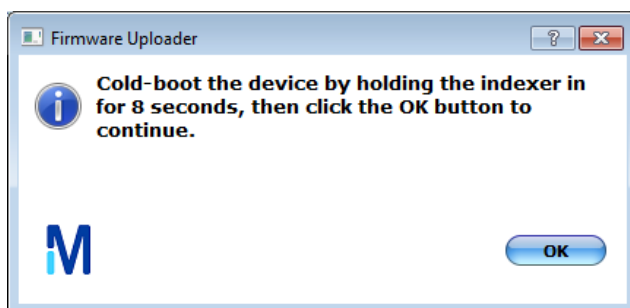

Figure 31. Cold-boot dialog box
5. Click on the **OK** button. A dialog box directs you to cold-boot the device by pressing the instrument control button (indexer) on the device for 8 seconds (Figure 31). After the cold-boot, release the instrument control button and click **OK**. This action starts the firmware installation.